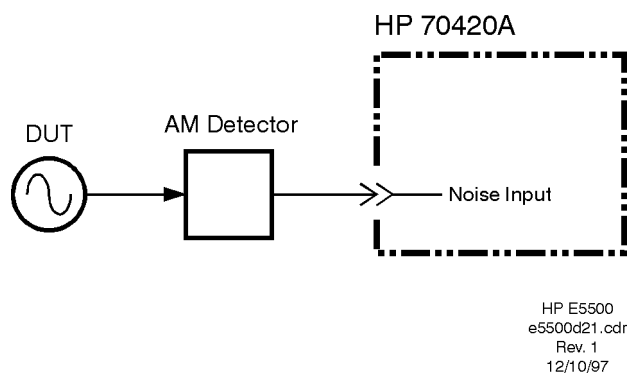
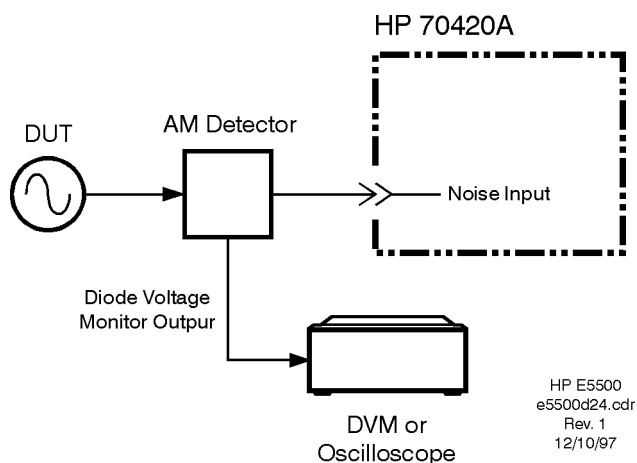

Figure 12-9 User Entry of Phase Detector Constant AM Noise Measurement Setup Method 1, Example 2
Figure 12-10 Modulation Sideband Calibration Setup
- 1 Using Figure 12-9 and Figure 12-10, connect circuit and tighten all connections. If the Agilent 70420A Option 001 or Agilent 70427A is available, use one of the connection diagrams described in “AM Noise Measurement Block Diagrams” on page 12-3.